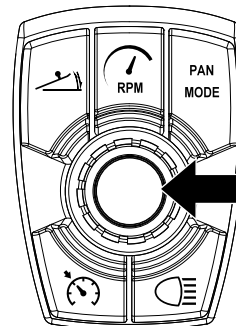

Figure 39. Control Knob
- Press the **control knob** (Figure 39) to toggle through the left, right, and dual pitch options.